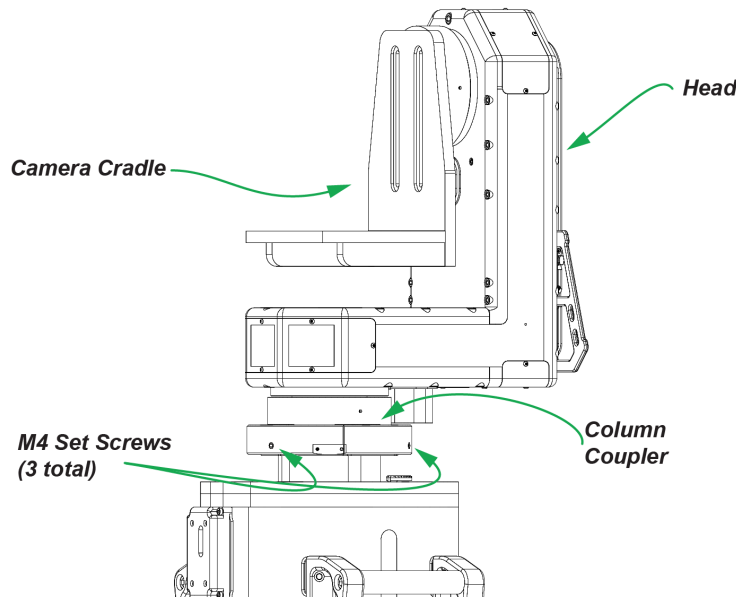

Figure 1 - Robotic Head
2. Use the grease pencil to mark the position of the payload on the camera cradle (refer to **Figure 1**), and then remove the payload. Marking the payload position enables you to return it to its exact original position, which is especially important if it is part of a Virtual Studio / Augmented Reality (VS/AR) solution.
2. While another person holds the head steady, use the 4 mm hexagonal wrench to loosen the three M4 set screws along the edge of the head/column coupler, until the head is loose enough to remove from the lift column. Refer to **Figure 1** above.